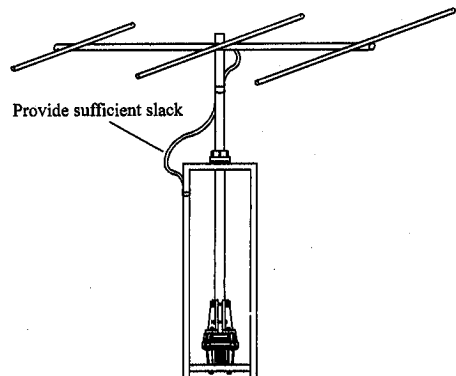

Figure 16
11. Provide sufficient slack in the coaxial cable such that the antenna can rotate over its full 450° range without putting *any* tension on the coax (see Figure 16). Secure the coax to the tower, using electrical tape and/or UV-resistant cable ties.